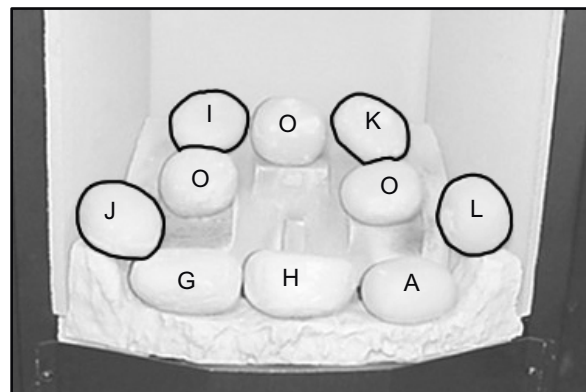

Fig 27a
Locate (J) and (L) on either side of the fuel bed (See fig 27a).